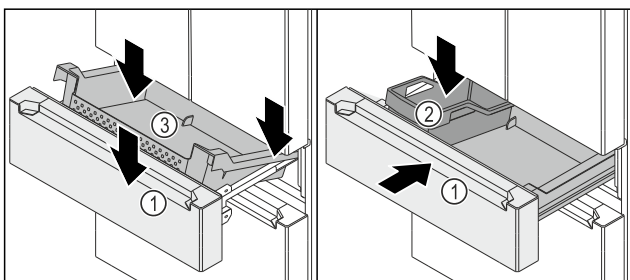

Fig. 150
- Telescopic unit Fig. 150 (1) is pulled out.
- ▶ Place the container Fig. 150 (3) at the rear on the rails on the right and left.
- ▶ Lower the front of the container Fig. 150 (3) so that the container Fig. 150 (3) encloses the rails on the right and left.
- ▶ Insert the FlexBox Fig. 150 (2).
- ▶ Push in the telescopic unit Fig. 150 (1).